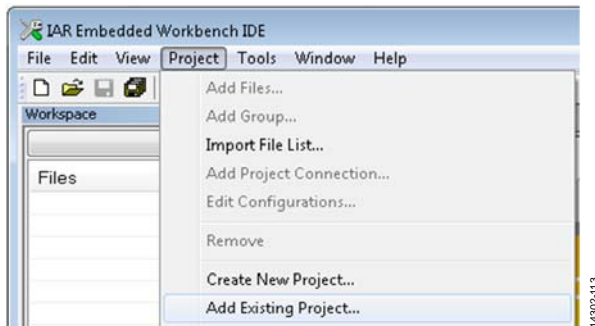

Figure 13. Adding Existing Project
3. From the **Project** menu, click **Add Existing Project...** from the dropdown list, as shown in Figure 13.